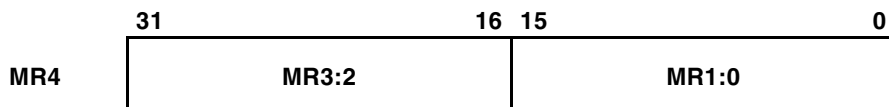

Figure 4-6. MR4 for Long Word Result (80-Bit Accumulation)
- Figure 4-6—Result is a long word (80-bit accumulation)